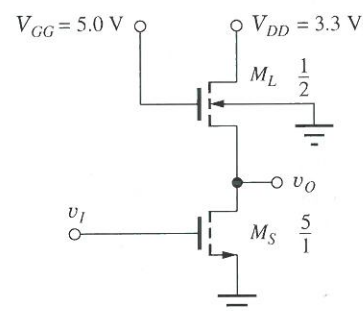

Figure P6.79
- 6.79. Find V_H , V_L , and the power dissipation (for $v_O = V_{OL}$) for the linear load inverter in Fig. P6.79.
- 6.80. What is the minimum value of V_{GG} in the circuit in Fig. P6.79 if $V_{TO} = 0.6$ V, $\gamma = 0.6 \sqrt{V}$, and $2\phi_F = 0.6$ V.
- 6.81. The linear load inverter in Fig. P6.79 was designed using $K'_n = 100 \mu\text{A}/\text{V}^2$. (a) What will be the new values of V_H , V_L and the power dissipation in this gate if $K'_n = 130 \mu\text{A}/\text{V}^2$? (b) Repeat for $K'_n = 70 \mu\text{A}/\text{V}^2$.
- 6.82. (a) Design a linear load inverter similar to that of Fig. P6.79 with $V_{DD} = 3.3$ V, $V_L = 0.20$ V, and $P = 300 \mu\text{W}$. Assume $V_{TO} = 0.6$ V, $\gamma = 0.6 \sqrt{V}$, $2\phi_F = 0.6$ V. (b) Confirm the validity of your design using SPICE.